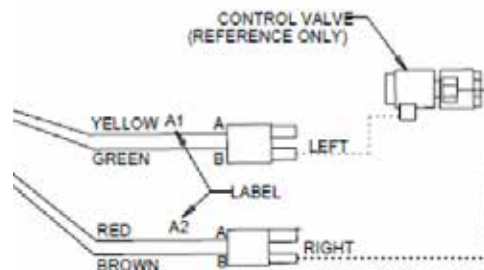

Figure 6
10. Connect control box harness connectors to electric/hydraulic valve stacked coils. See figure 6